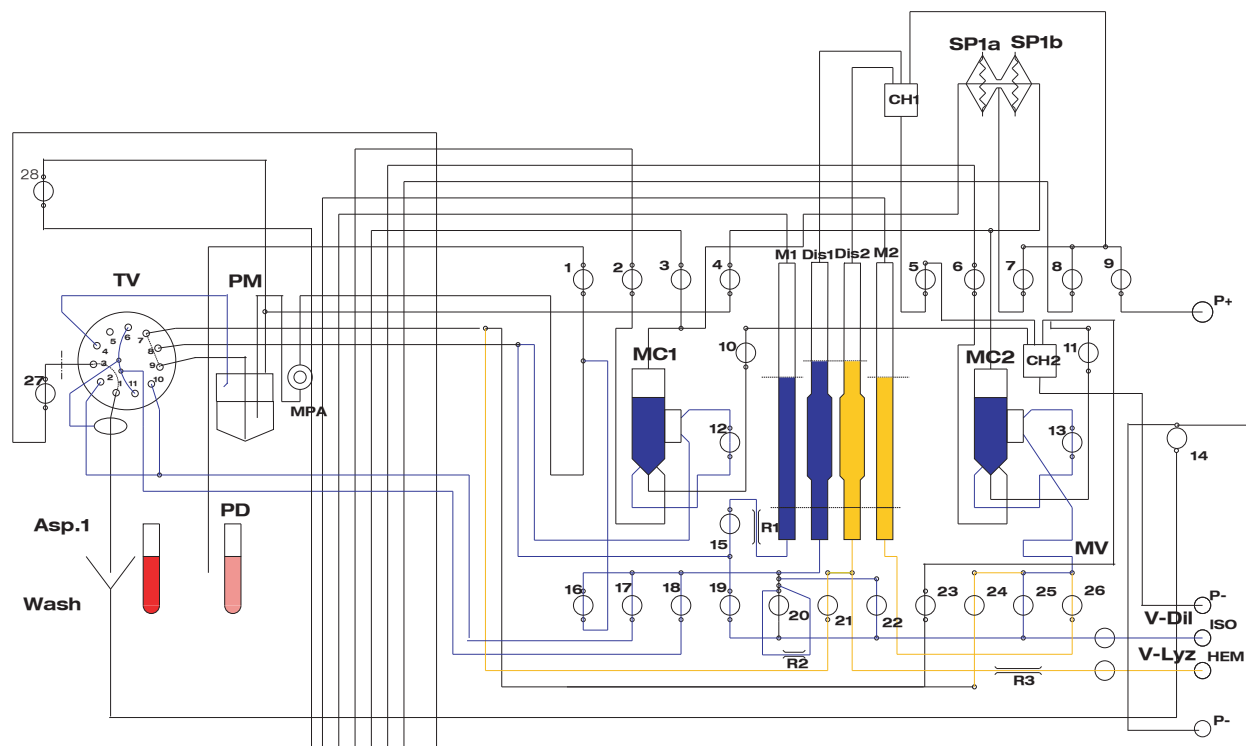

Figure 2.18
In Figure 2.18, the analyzer is shown in its home position. The measuring cups MC1 and MC2 are partly filled with reagents. The primary mixing cup is empty and the shear valve SV is in its home position with pos. 1-3 and 7-9 connected via the micro channels. Any pressure is absent in chambers PM, CH1, CH2, SP1, MC1 and MC2. Pipettes and metering units are filled with diluent and lyse just above the stop detectors.